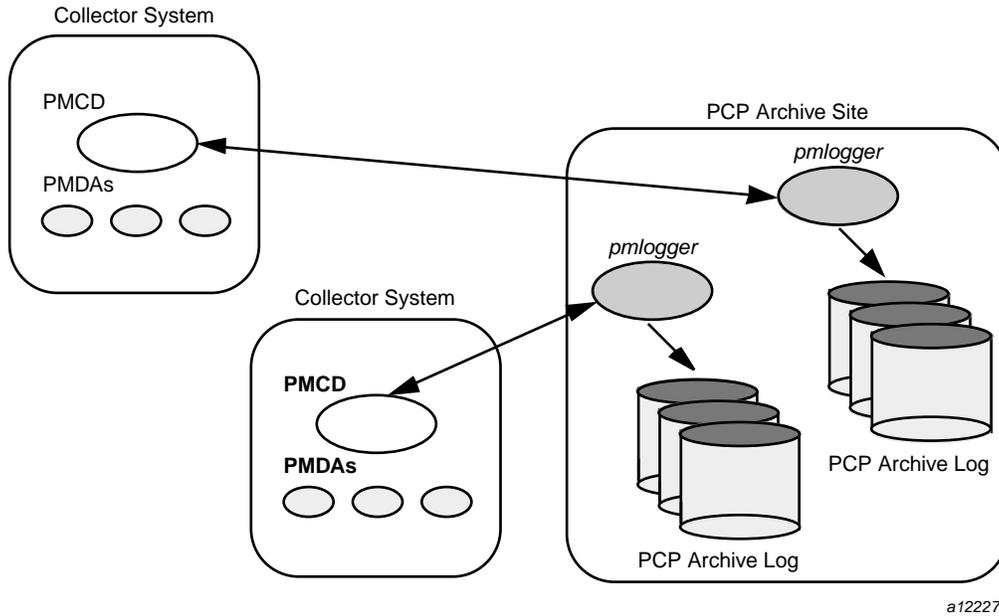

Figure 39. Designated PCP Archive Site
- As an extension of the previous option, designate one system to act as the PCP archive site to run all `pmlogger` instances. This arrangement is shown in Figure 39.
Many of these tasks are handled by the supplied `pmlogger` administrative tools and scripts, as described in Section 7.2.3. However, the necessity and importance of these tasks favor a centralized `pmlogger` deployment, as shown in Figure 39.